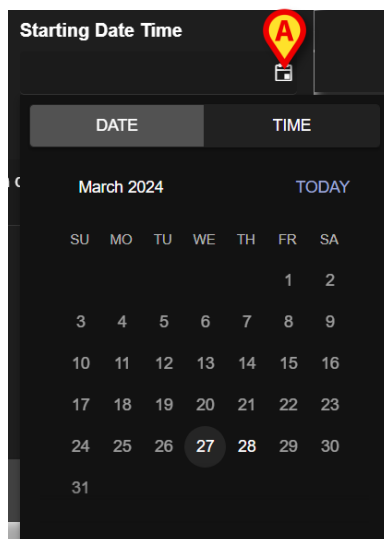
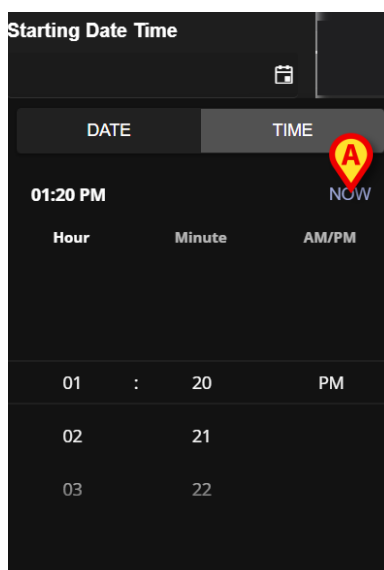

Fig 29
Fig 30
- Click the calendar icon placed alongside the field (Fig 29 **A**). A calendar window opens.
The selectable days are highlighted. In Fig 29 only the 27th and 28th are selectable (being the 27th the present day). After the day is selected, the window automatically shifts to time selection (Fig 30).
The **Now** button (Fig 30 **A**) sets the current time as starting time.